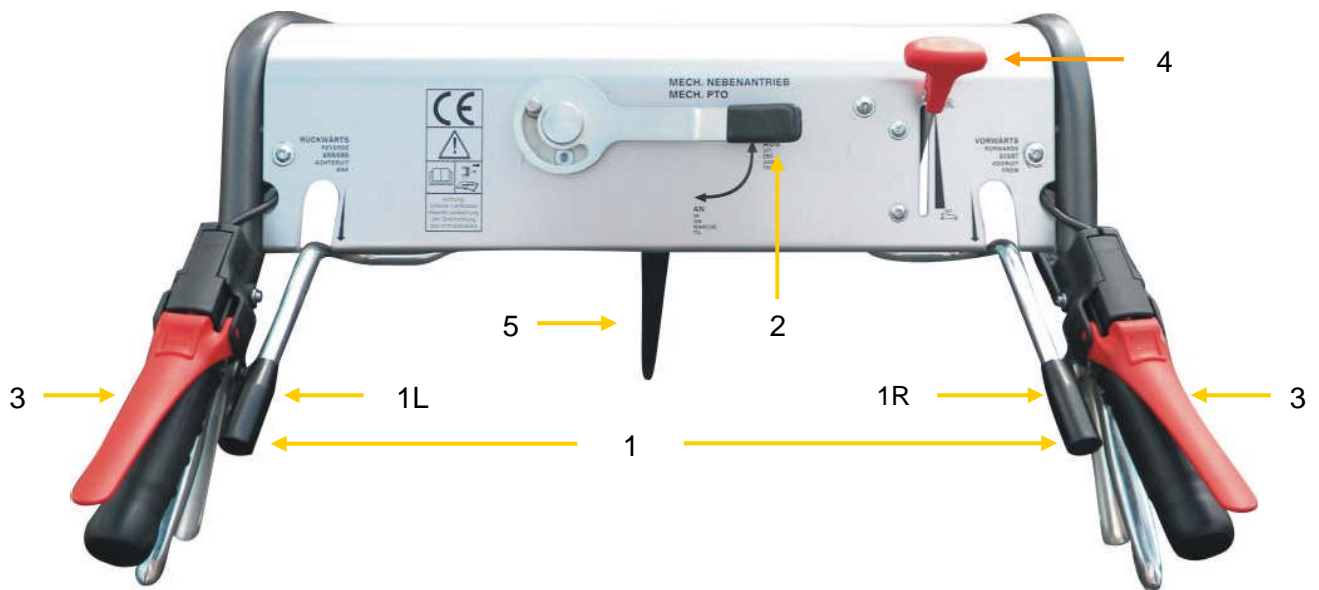
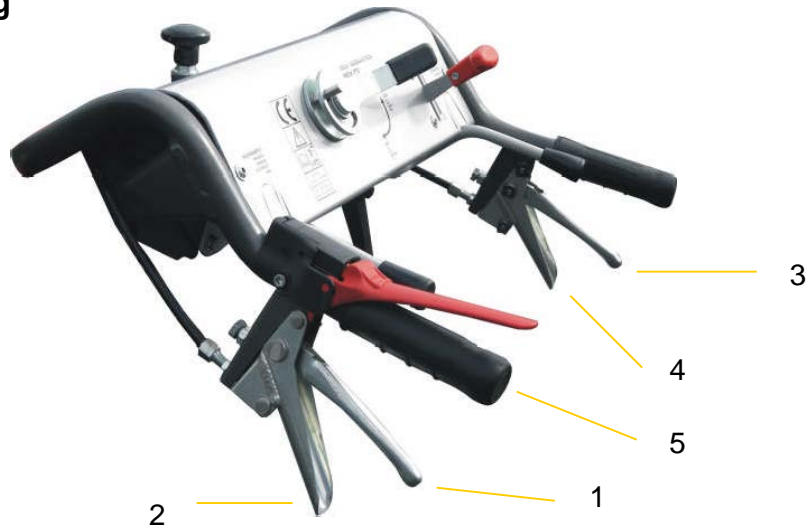

Figure 7.1
Figure 7.2
- To start the engine, the drive lever (Fig.7.1, item 1) must be in the horizontal position and the PTO lever (Fig.7.1, item 2) must be in the "off" position.
- During the starting process it is forbidden to operate the Deadman switch (Fig.7.1;
- Press the throttle lever (Fig.7.1, item 4) about 1/3.
- Press the dead man switch (Fig.7.1, Pos.3) down and keep it pressed.
- On both sides of the handlebar there is a driving lever (Fig.7.1, Pos.1L and 1R), which are connected by a common pivot point and thus form a common driving lever (Fig.7.1, Pos.1). When a drive lever is actuated, the opposite drive lever performs an opposite movement, so that the operation of the drive lever is similar to a rocker.
- For forward driving, the right-hand drive lever (Fig.7.1, item 1R) is pressed down by the right thumb. The more the drive lever is pressed down, the faster the machine moves. In order to reduce the speed or to stop the machine, push down the raised lever (Fig.7.1, item 1L) with your left thumb.
- If the individual drive levers (Fig.7.1, items 1L and 1R) are at the same height or in a horizontal position, the machine is stationary.
- For the reverse drive, the left driving lever (Fig.7.1, item 1L) is pressed down by the left thumb. The more the drive lever is pressed down, the faster the machine moves. In order to reduce the speed or to stop the machine, push down the lever swung upwards (Fig.7.1, item 1R) with your right thumb.
- The force that needs to be applied with the thumb to operate the control lever can be adjusted to the conditions of use. For light maintenance work, the brake resistor for the self-holding of the driving lever may be smaller than, for example, when mowing on a slope. If the frictional resistance is too small, then the driving lever retracts itself in the direction of the neutral position. The lever to set the correct braking resistor is located in the center and below the control panel (see Fig.7.1, item 5).
- Use the throttle lever (Fig.7.1, item 4) to regulate the engine speed and thus also the driving speed. Always try to drive with the lowest speed required, this protects material and the environment.
- The attachment machine is switched to "on" or "off" with the lever (Fig.7.1);
- Before switching off the combustion engine, make sure that the control lever (Fig.7.1, item 1) is in the horizontal position and the PTO lever (Fig.7.1, item 2) is in the "off" position,
- Move the throttle lever (Fig.7.1, item 6) to neutral and allow the engine to idle for approximately one-half minute.
- As shown in Figure 7.2, a first steering lever (Pos. 1 or Pos. 3) and a second steering lever (Pos. 2 or Pos. 4) are arranged on the control panel on each handle.
- If, for example, a left-hand drive is to be initiated, this can be done by actuating the first steering lever (Fig.7.2, item 1) on the left handgrip (Fig.7.2, item 5). The more the first steering lever is pulled through, the smaller the turning circle becomes, until finally the left wheel is blocked. The right wheel is not affected in this steering maneuver and maintains its speed. If necessary, by moving from the first steering lever to the second steering lever (Fig.7.2, item 2), the left wheel can be moved in the reverse direction, whereby the turning circle can be reduced so that the motor mower rotates about its own axis. There is a proportional behavior in both functions of the steering levers. This means that the further the second steering lever is pulled through, the faster the left wheel turns out of the blocked state in the opposite direction of travel.
- When the two first steering levers (Fig.7.2, Pos.1 and Pos.3) are actuated at the same time, the drive unit stops, while the second steering levers (Fig.7.2, Pos.2 and Pos.4) are in the reverse direction at the same time emotional.
- In emergency situations, the operation of the two first steering levers (Fig.7.2, Pos.1 and Pos.3) can be used to immediately stop the machine. The traction drive itself is switched off by the subsequent actuation of the driving lever (Fig.7.1, item 1) in the horizontal position. Following this, the two steering levers can be released.
- Release the dead man switch (Fig.7.1, item 3). This shuts off the engine and brakes the wheels. At maximum speed, the machine comes to a standstill after a few meters.